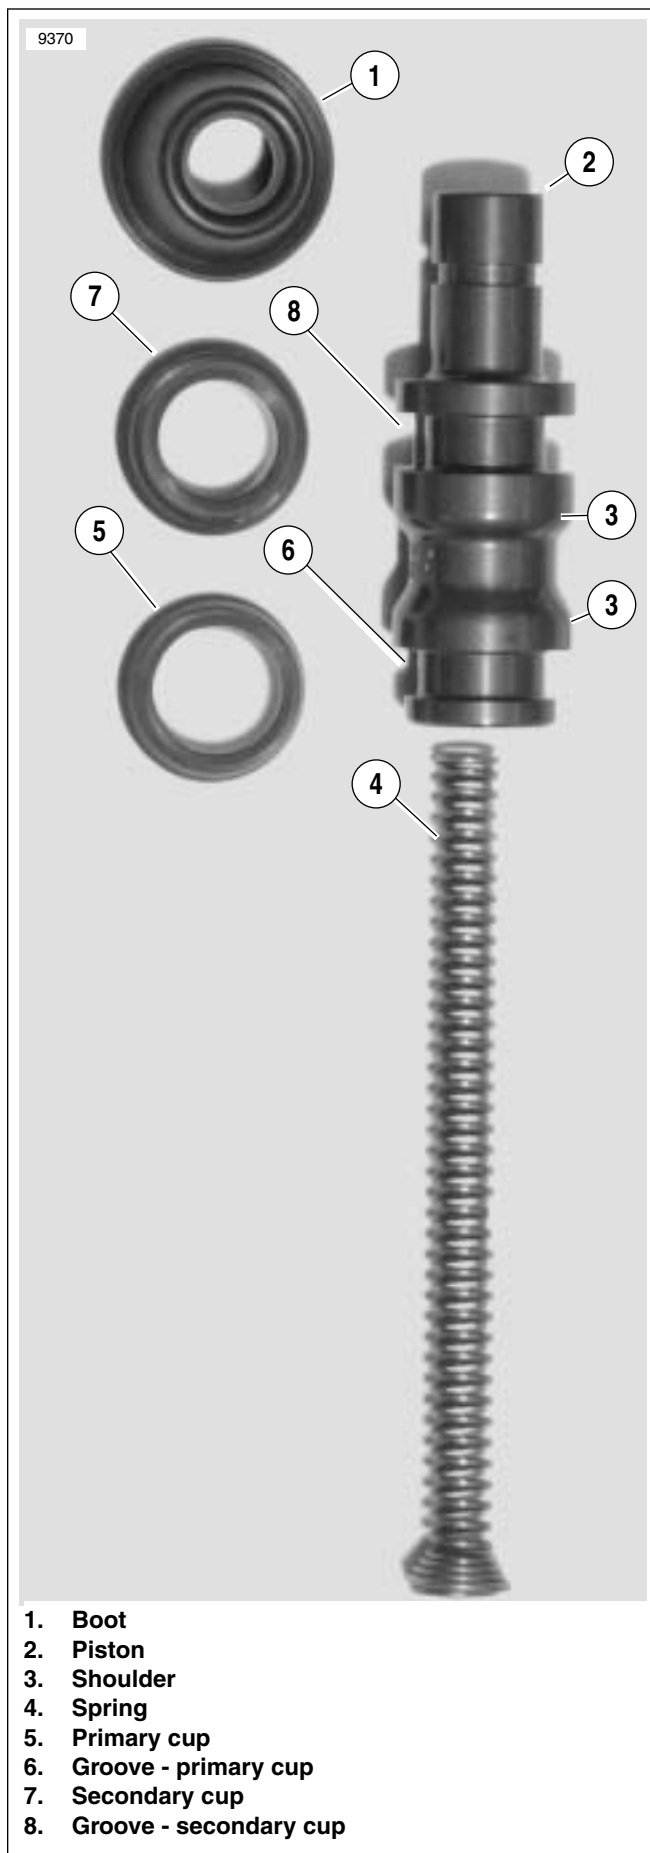

Figure 2-32. Clutch Master Cylinder Components
5. See Figure 2-32. Using a toothpick or small screwdriver, gently pry outer edge of piston boot out of piston bore.
1. See Figure 2-32. Lightly lubricate inside of primary cup and fit over lip on spring end of piston so the closed end (small ID) contacts evenly with the shoulder in primary cup groove.